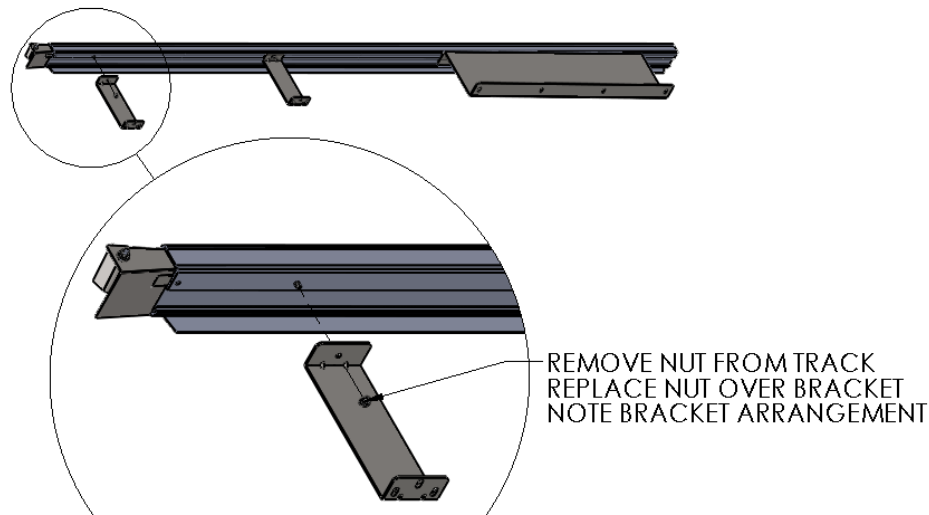

Figure 5 TRACK OFFSET BRACKET ARRANGEMENT
2. The tracks have hardware to mount the offset brackets. Also, note they are marked for orientation as top left side (TL), and top right side (TR).
3. Locate the small Track Projection Mount Brackets, Two (2) per track, and the very large Track Projection Mount Brackets One (1) per track. Using the hardware in the Track Assembly, mount the single hole side toward the tracks. These brackets should be mounted so that they are vertically oriented, i.e. so that they are parallel to the track (NOT horizontally oriented /left to right). (Figure 5 TRACK OFFSET BRACKET ARRANGEMENT)